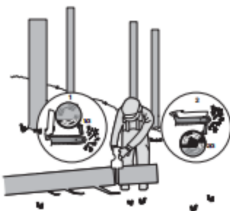

Fig.4
When the log is supported on both ends, as illustrated in Figure 4, cut $\frac{1}{3}$ the diameter from the top (overbuck) (1). Then make the finished cut by under-bucking (2) the lower $\frac{2}{3}$ to meet the first cut.